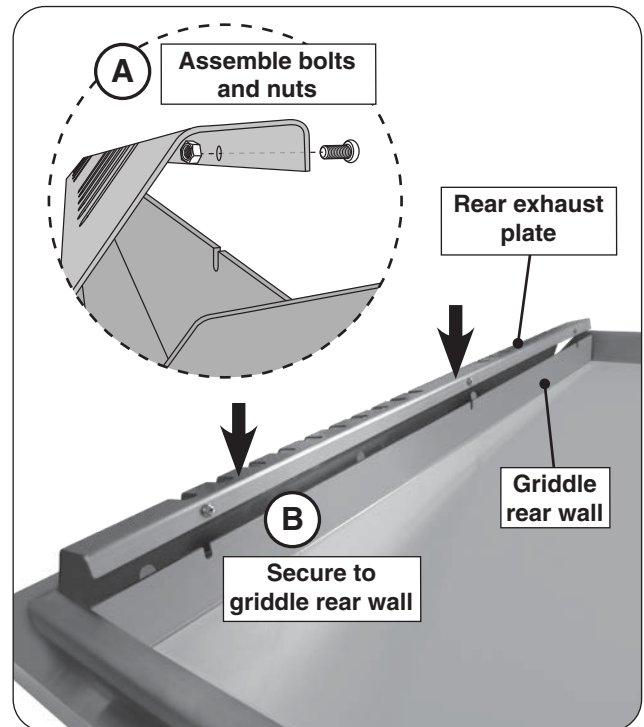

**Fig. 22-2** Secure griddle top
2. Secure the griddle top by fastening the provided screw into the screw hole located on the rear of the griddle top (see Fig. 22-2).